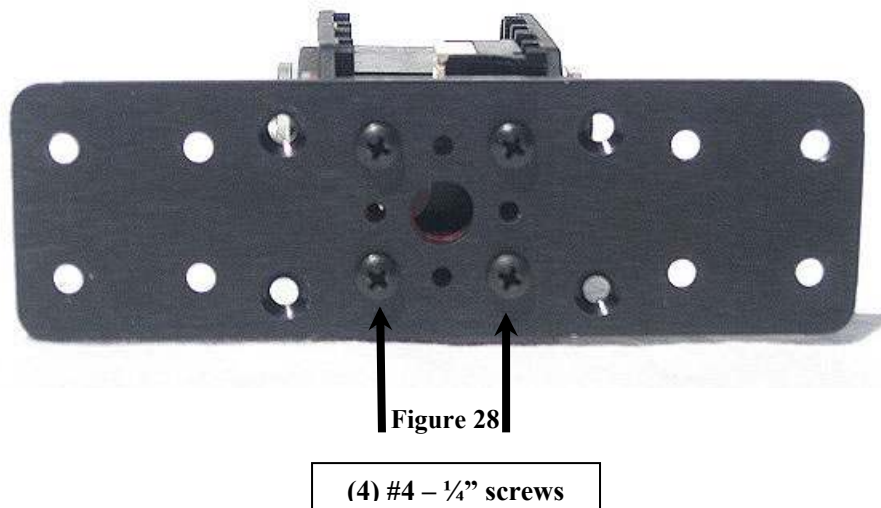

Figure 28
2. Using (4) #4- 1/4" screws, install the assembly from step 1 to the center of the dual axis plate as shown in figure 28.